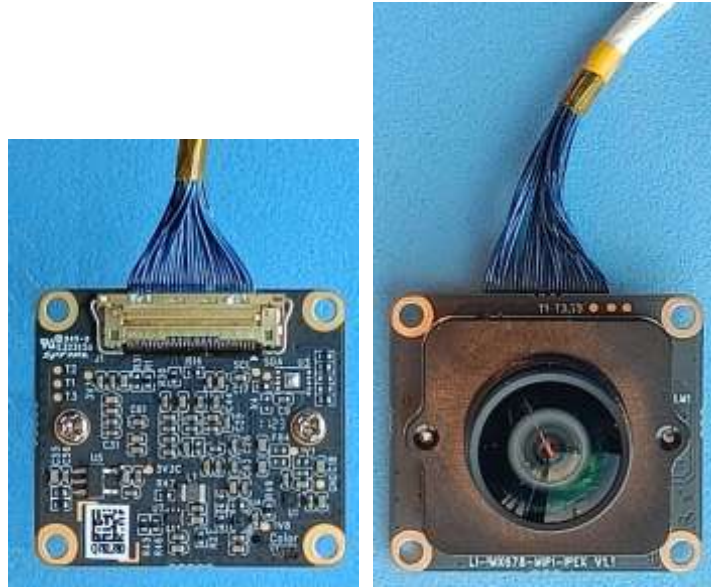

Figure 18. Sensor cable connection to the IMX 678 camera sensor module
3. Connect one end of the camera sensor module cable to the IMX 678 camera sensor module as shown in Figure 18.